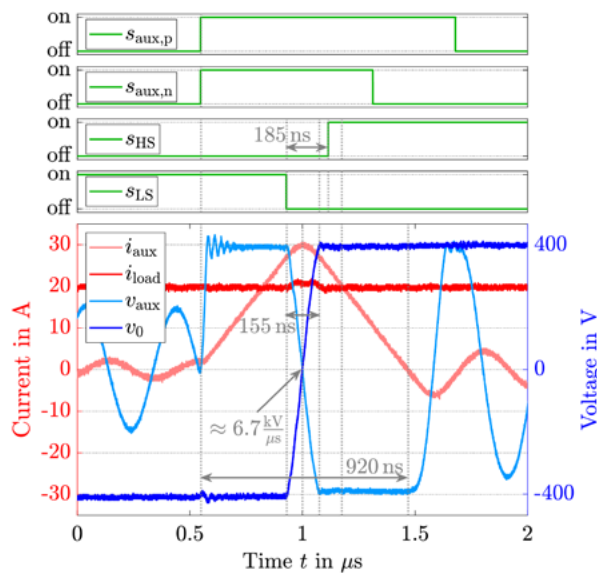

Figure 3: Switching transition waveforms.
Power electronic designers can influence the converter's EMI performance by selecting appropriate parameters and resonant components. The voltage profile can be shaped to comply with the application's specific EMI requirements and dv/dt limits. Figure 3 shows that for a low-side (LS) to high-side (HS) transition.